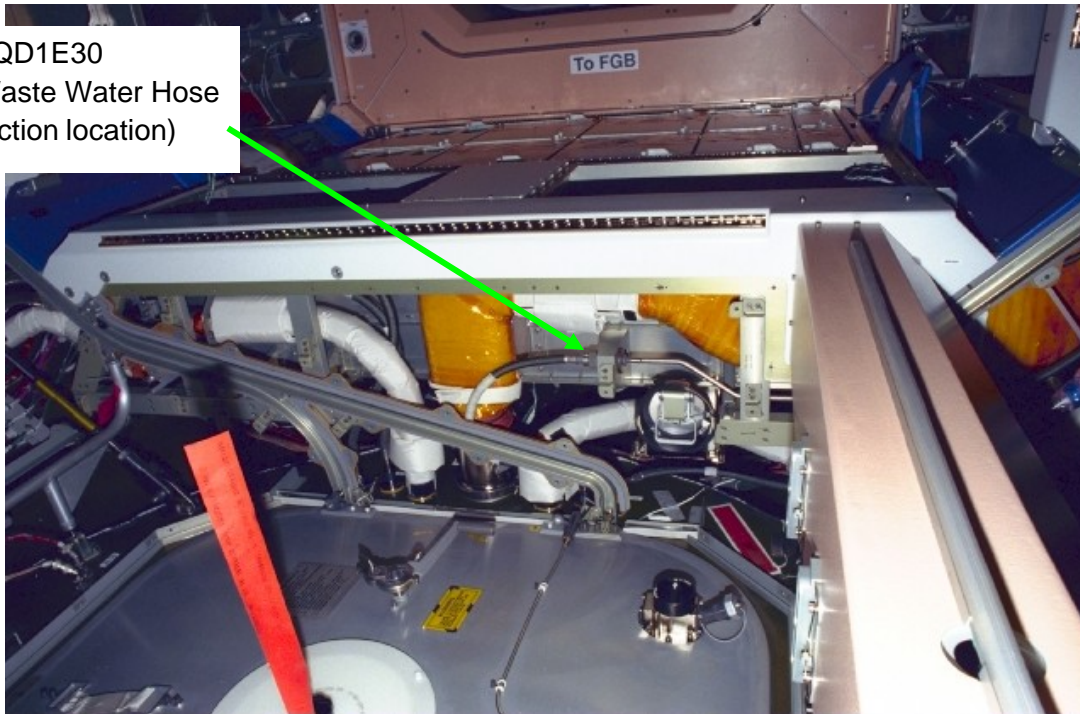

Figure 20.- Node 1 Nadir Midbay, Forward Side.
- 14.1 Locate NOD1 Waste Water Hose stowed near QD1E30. Refer to Figure 20.